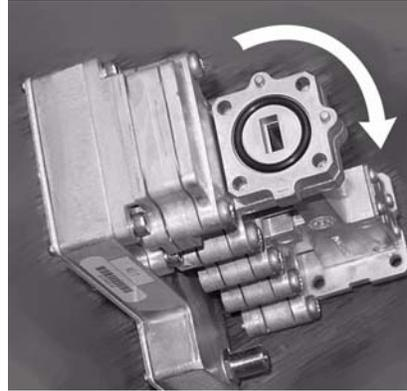

Figure 21: Direction of TRIA rotation for vertical polarization
Because of the shim's alignment pins, you must rotate the TRIA 90° from its horizontal polarization position. You must rotate the TRIA *before* you re-attach the waveguide end so you can insert the shim alignment pins into the waveguide end plate. See Figures 21 and 22.
6. Make sure the O-ring shown in Figure 21 on page 23 is in place in the shim.